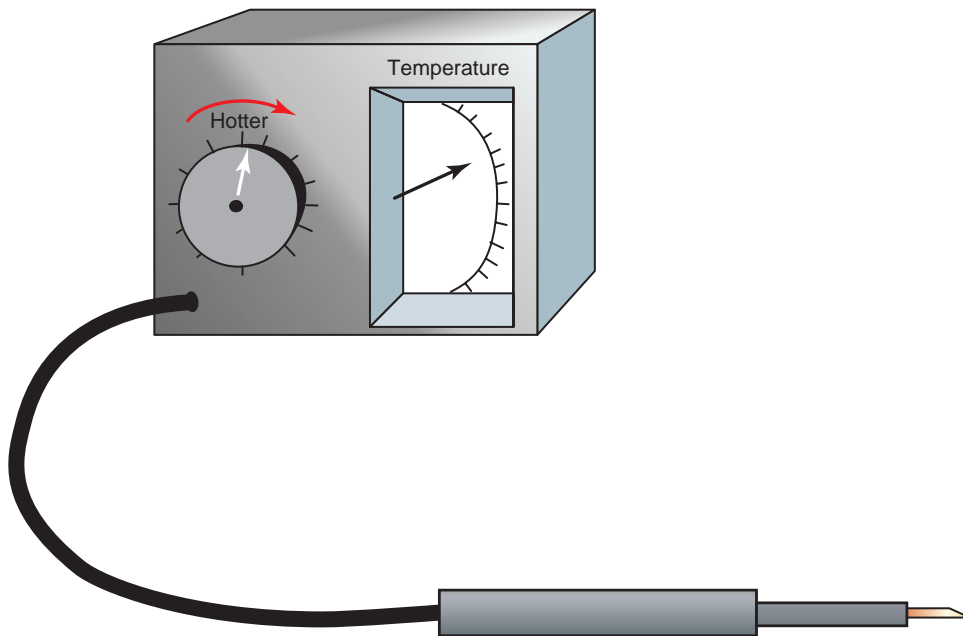

FIGURE 5-8 Control console for resistance soldering.
- Less chance of damaging parts—A heat source can be used that has a maximum temperature below the temperature that may cause damage to the parts. With the controlled temperature sufficiently low, even damage from unskilled or semiskilled workers can be eliminated, **Figure 5-8**.